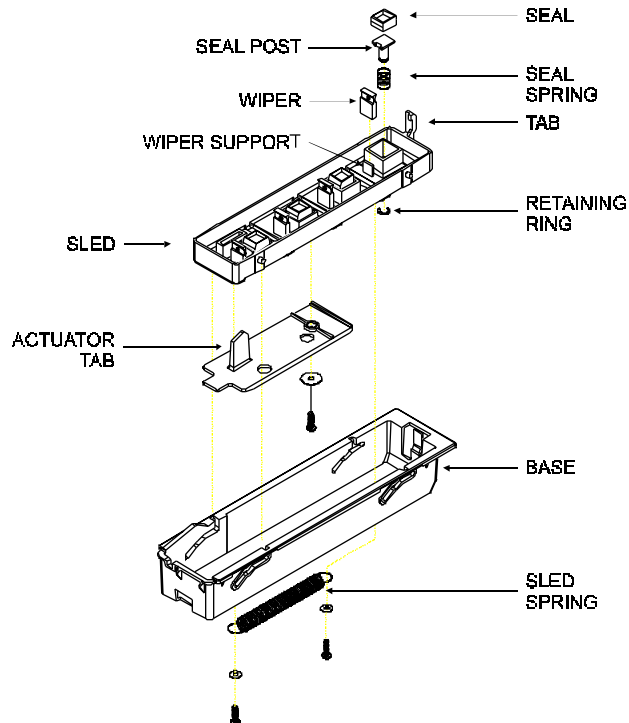

Figure 5-13. Service Station, Exploded View.
3. Reach into the Right Cover and pull back on the Service Station release tab located on the far side of the Service Station. See Figure 5-13.
- a. Disconnect the Sled spring from the post on the bottom of the Service Station Sled. See Figure 5-13.